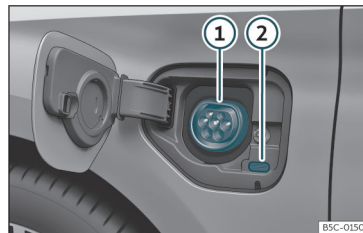

Fig. 191 Behind the battery charging cover on the front left-hand side: Charging socket
>>> Fig. 191
- With the vehicle unlocked, the battery charging cover opens when it is pressed >>> **Fig. 191**.